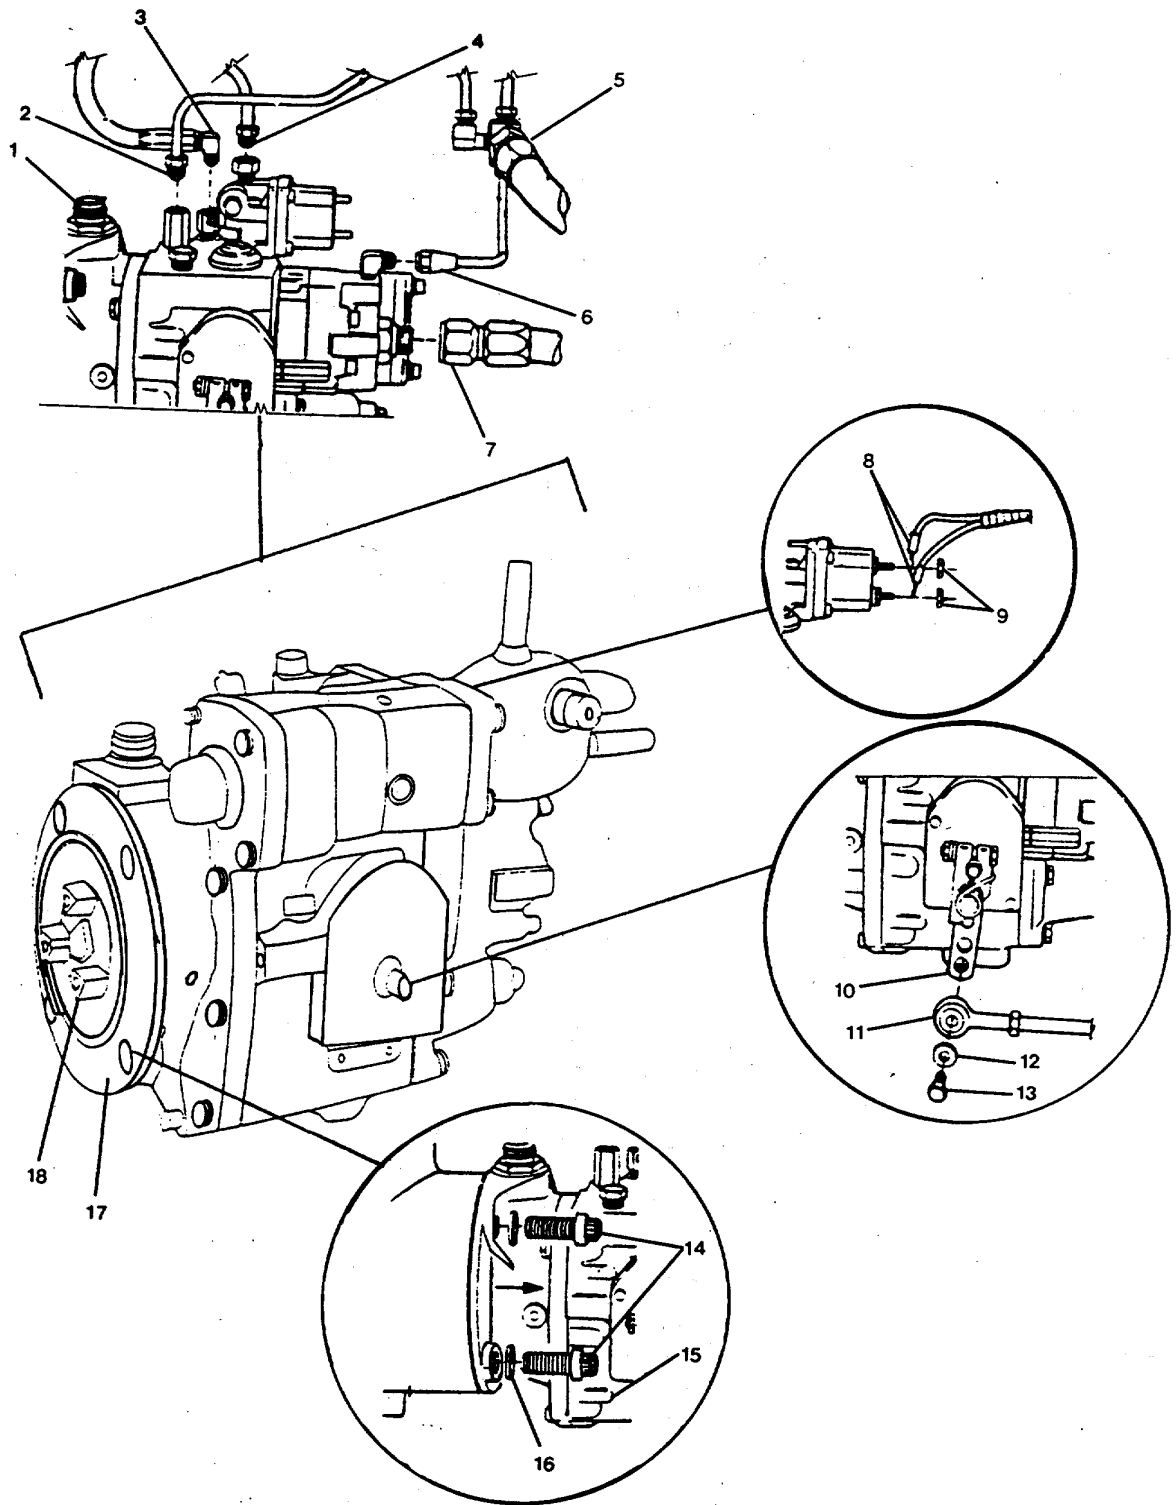
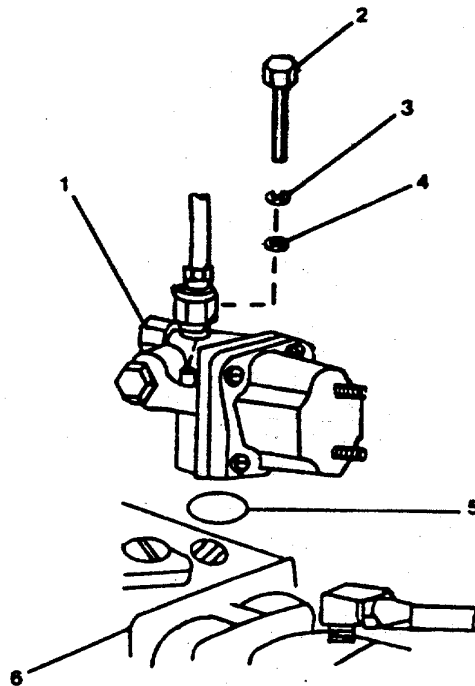
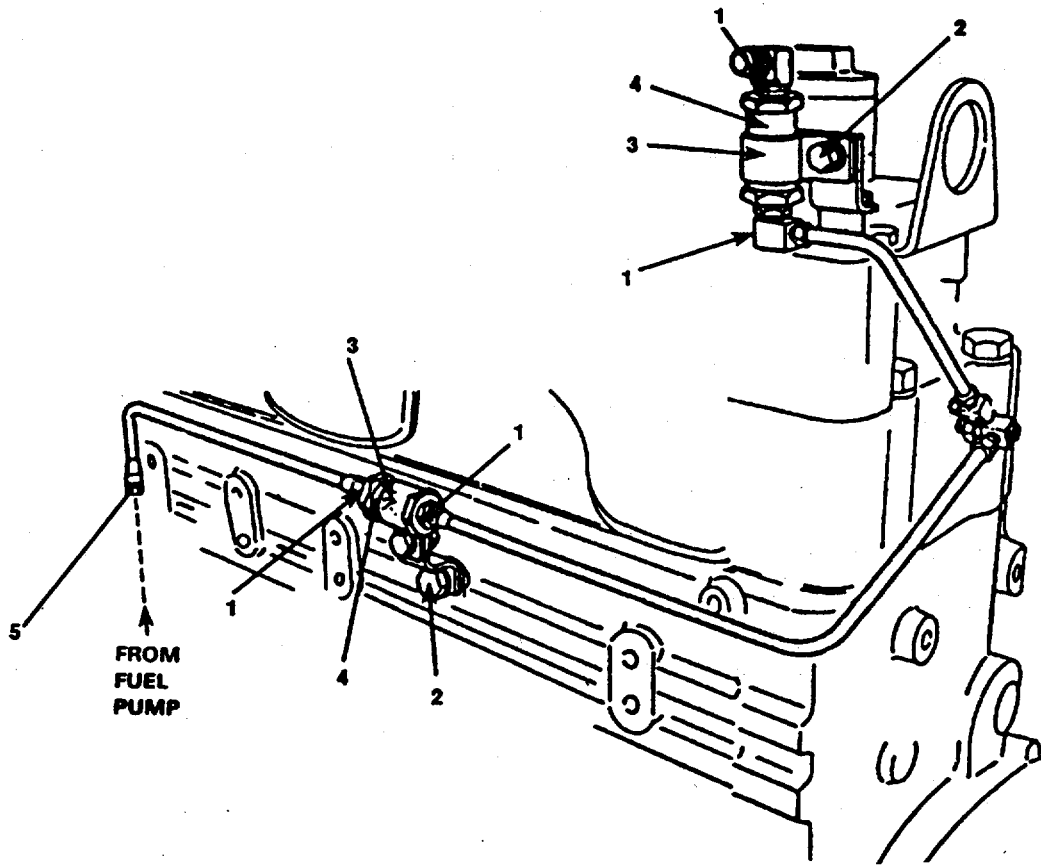

FIGURE 2-27. Fuel Pump.
FIGURE 2-28. Solenoid Valve Replacement.
FIGURE 2-29. Fuel Line Check Valves.
- c. Remove nuts (9, FIGURE 2-27) and wires (8) to the fuel shutoff solenoid valve.
- d. Remove the linkage (11) by removing bolt (13) and washer (12) from the throttle lever (10).
- (1) Tachometer cable (1).
- (2) Air supply hose (3).
- (3) Fuel supply to injectors (4).
- (4) Fuel return hose (2).
- (5) Gear pump cooling drain (6).
- (6) Gear pump suction line (7).
- (7) Fuel return from cylinder head (5).
- f. Remove the four capscrews (14) and washers (16), and the fuel pump (15) and gasket (17).
- g. Remove capscrews (2, FIGURE 2-28), lockwashers (3) and flat washers (4).
- h. Remove solenoid valve (1) and gasket (5) from top of fuel pump (6).
- i. If check valves are to be removed, refer to FIGURE 2-29 and do the following:
(1) Remove the support bracket capscrews (2) and remove the support clips (3).
(2) Disconnect the check valves (4) at hex connections (1) and remove the check valves.
Repair consists of replacing check valves (3, FIGURE 2-29), fuel pump (15, FIGURE 2-27) and gasket (17, FIGURE 2-27), shutdown solenoid valve (1, FIGURE 2-28) and gasket (5).
- a. Clean gasket surface of the fuel pump (15, FIGURE 2-27) and accessory drive.
- b. Inspect spider coupling (18), if damaged, replace fuel pump (15).
- a. If check valves were removed, connect new valves with hex connections (1, FIGURE 2-29).
- b. Install the support clips (3) onto the valves with capscrews (2).
- c. Install new gasket (17, FIGURE 2-27) on fuel pump (15).
The spider coupling (18, FIGURE 2-27) must be aligned with accessory drive coupling.